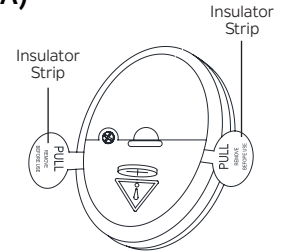

Fig. 22A
ACTIVATING THE TRANSMITTER BATTERIES AND ACTIVATING THE TRANSMITTER (Fig. 22A)
Step 1. To activate the transmitter, carefully pull the insulator strips out of the transmitter to activate the two preinstalled CR2032 3V button/coin cell batteries. Discard insulator strips. (Fig. 22A)